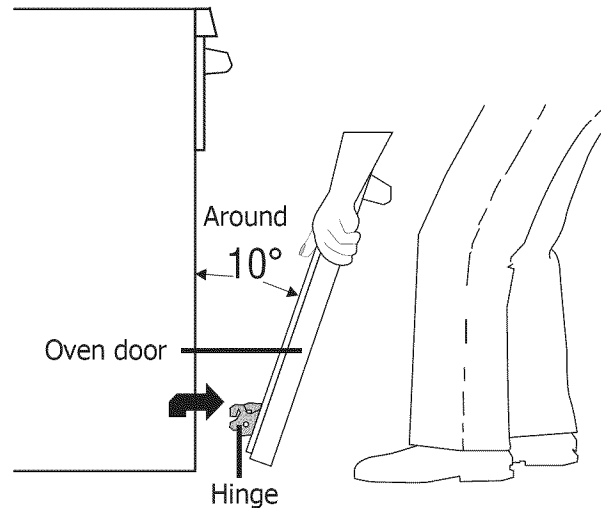

Figure 3
3. Firmly grasp both sides of oven door along the door sides (Do not use the oven door handle - See Figure 3).
1. Firmly grasp both sides of oven door along the door sides (Do not use the oven door handle - See Figure 3).
2. Disengage the lock from the hinge lever hooks on both sides (Figure 3).